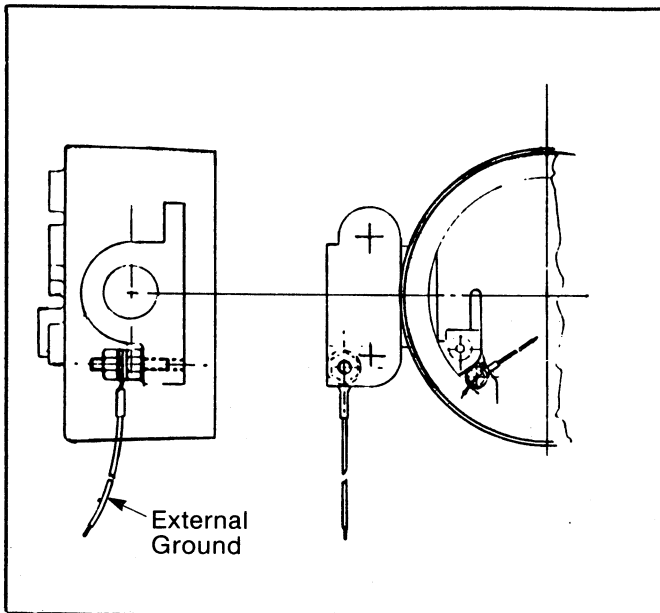

Figure 8. External Ground Wire.
1. Customer applied ground wire is shown in Figure 8.